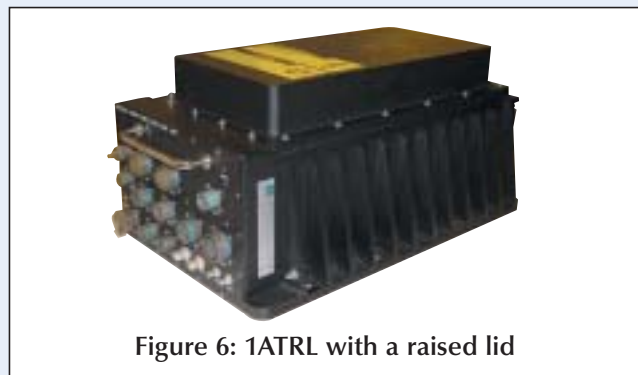

Figure 6: 1ATRL with a raised lid
**Raised lids** for cable routing above VME front panels, peripheral mounting or additional connector positions (figure 6).